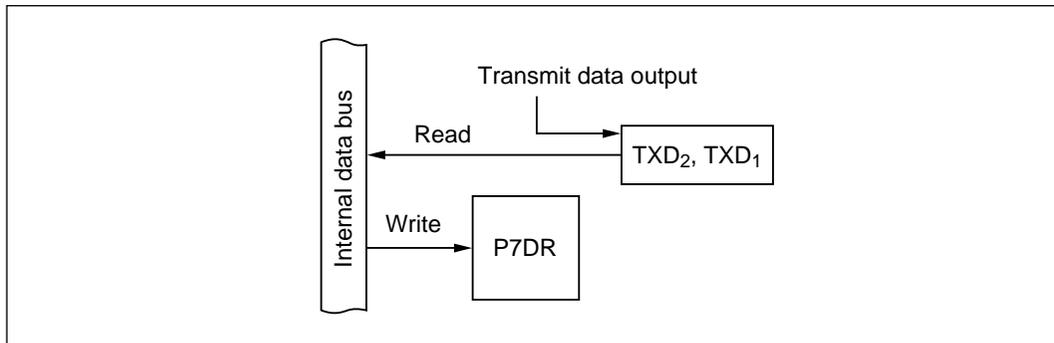

Figure 10-49 TXD₂ and TXD₁ Output (Modes 1 to 7)
(5) TXD₂ and TXD₁ Output (P7₄ and P7₂; Modes 1 to 7): Figure 10-49 shows a block diagram illustrating the TXD₂ and TXD₁ output function. Table 10-40 indicates register read/write data. When P7₄ and P7₂ are used for TXD₂ and TXD₁ output, the value written in P7DR is ignored, but P7DR can be read to monitor the levels at the TXD₂ and TXD₁ pins.